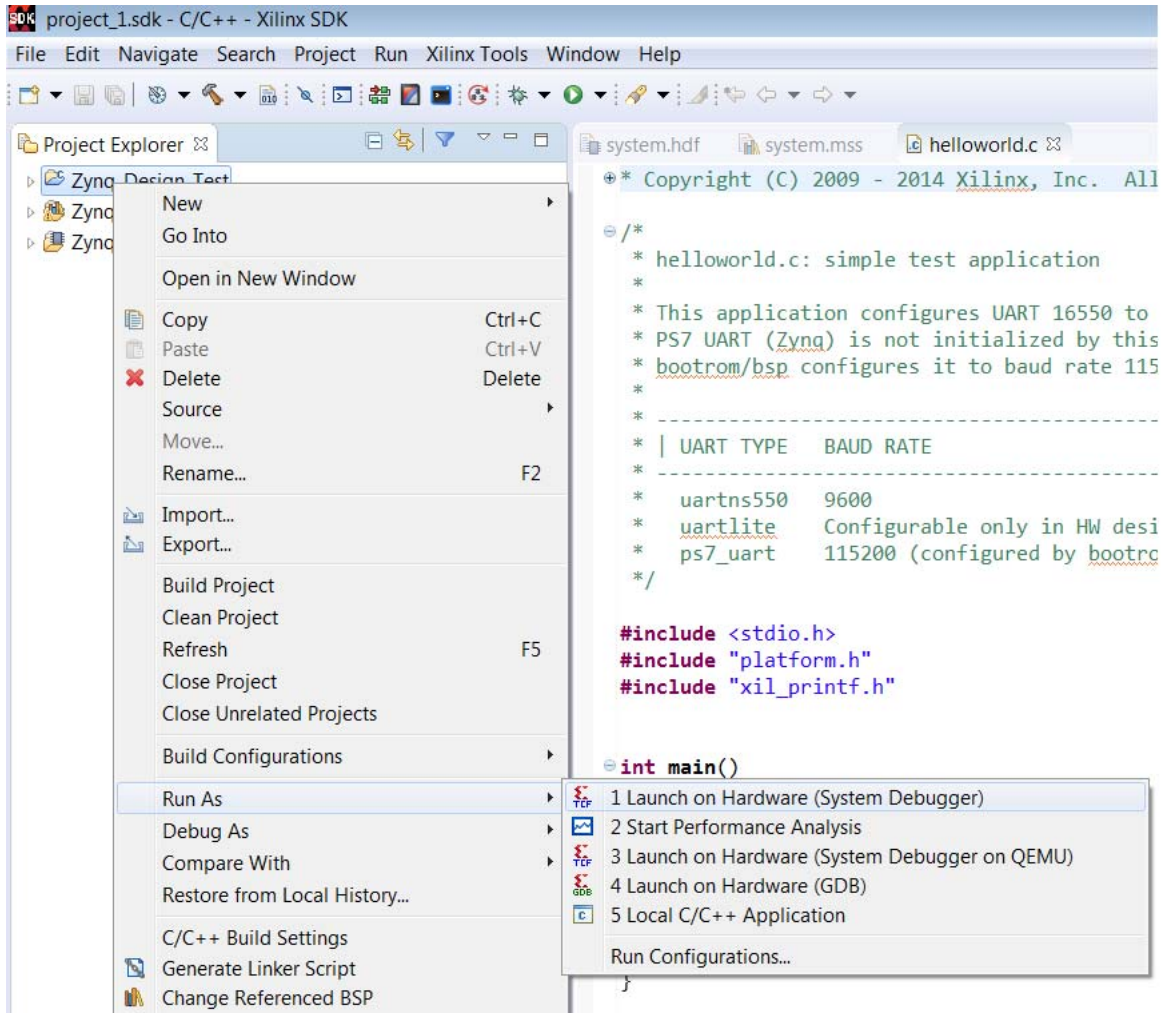

Figure 10-24: Run the Application Project
- 9. Right-click the application project **Zynq_Design_Test** in the Explorer pane (Figure 10-24).